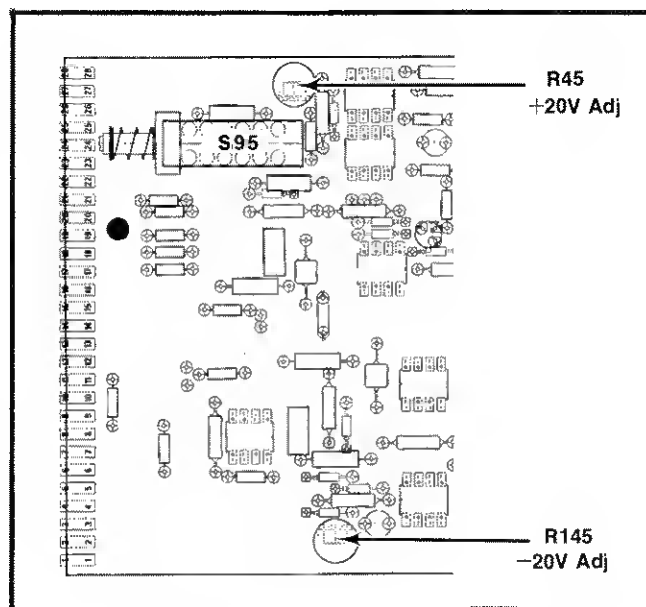

Fig. 3-1. Location of +20 V and -20 V adjustment.
b. Install the PS 503A into the far right (high power) power module compartment, or if appropriate, connect the PS 503A to the power module by means of the flexible plug-in extender. If a flexible extender is used, current limiting switch S95 must be engaged in the maximum current (HI) position. See Fig. 3-1 for switch location.
e. Adjust—R45, +20 Adj, for a meter reading of +20.2 volts, ± 0.1 volt. See Fig. 3-1 for adjustment location.
h. Adjust—R145, –20 Adj, for a meter reading of –20.2 volts, ± 0.1 volt. See Fig. 3-1 for adjustment location.